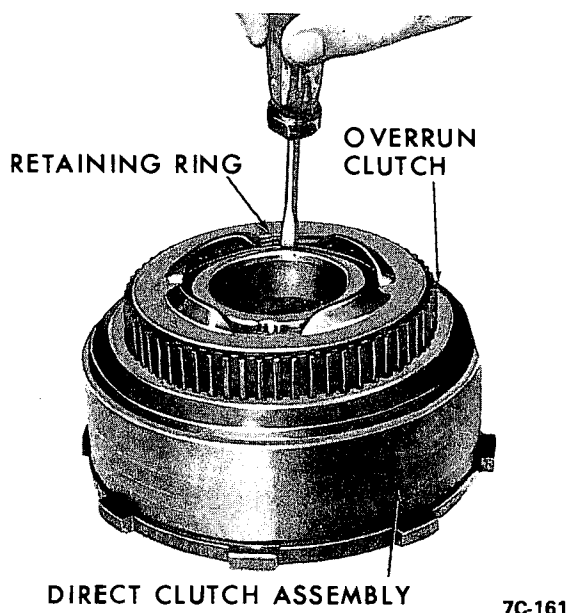

Figure 7C-96
2. Remove intermediate clutch overrun outer race. See Figure 7C-97.